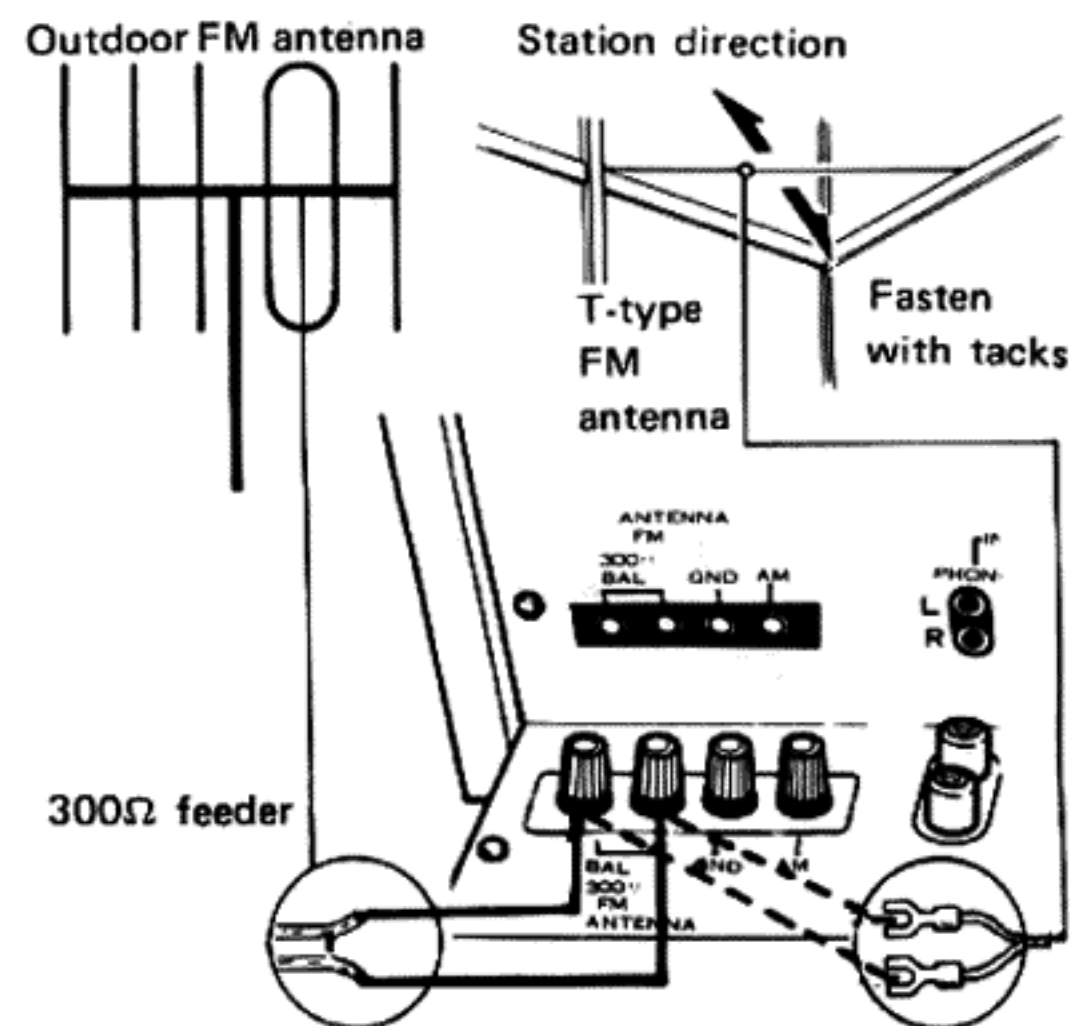

Fig. 4
- Connect antenna feeder to the 300Ω antenna terminals of the receiver as shown in Fig. 4.
- As shown in Fig. 4, connect the T-type antenna to the 300Ω antenna terminals, spread the arms horizontally and while listening to an FM station, position the antenna for best reception. The antenna can then be taped to a wall or ceiling.